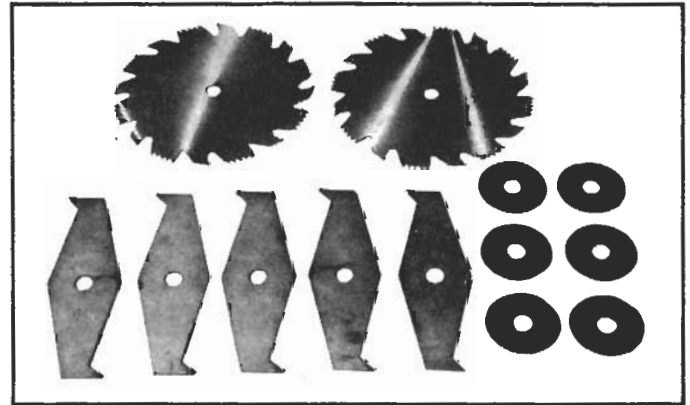
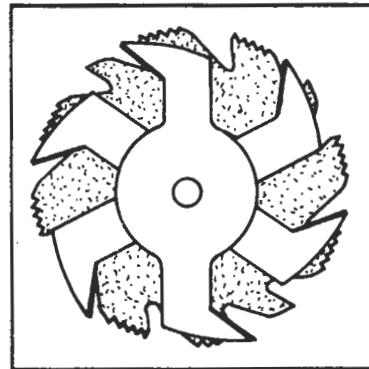
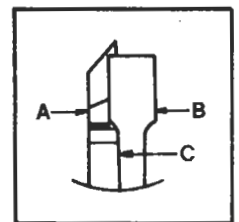

Fig. 46
Fig. 47
Fig. 48
Dadoing is cutting a rabbet or a wide groove into the work. The dado head set consists of two outside saws and three inside cutters, as shown in Fig. 46. Various combinations of saws and cutters are used to cut grooves from 1/4" through 1/2" wide in 1/16" increments for use in shelving, making joints, tenoning, grooving etc. The cutters are heavily swaged and must be arranged so that this heavy portion falls in the gullets of the outside saws, as shown in Fig. 47. The saw and cutter overlap is shown in Fig. 48, (A) being the outside saw, (B) an inside cutter, and (C) a paper washer or washers which can be used as needed to control the exact width of groove. A 1/4" groove is cut by using the two outside saws. The teeth of the saws should be positioned so that the raker on one saw is beside the cutting teeth on the other saw. **DO NOT** use dadoes wider than 1/2" as they will not allow arbor nut to properly engage threaded arbor shaft.